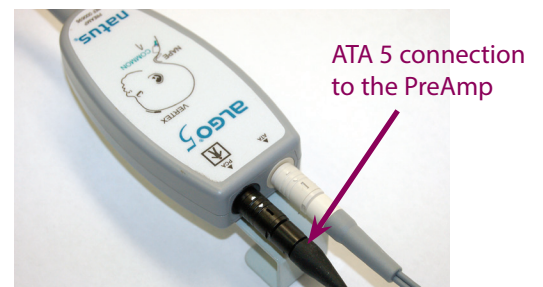

FIGURE 4
- Check that the preamplifier cable is securely plugged in (Refer to Figure 4).